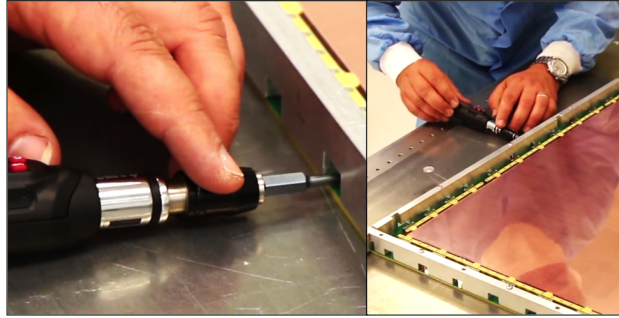

Figure 107: Finalizing the stretching of the stack.
Step 9: After the test is complete, use the electronic screw driver to finalize the stretching of the foils (Fig. 107). The nominal strength value on the side of the trapezoid is 9 cNm, while it can be slightly higher in the corners, up to 15 cNm.